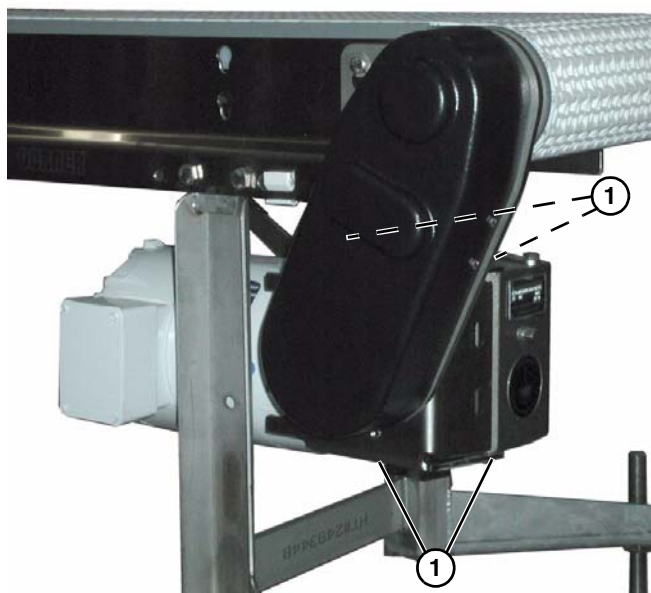

Figure 4
1. If required, change gearmotor position by removing four bolts (**Figure 4, item 1**). Rotate gearmotor to other position and replace screws (**Figure 4, item 1**).